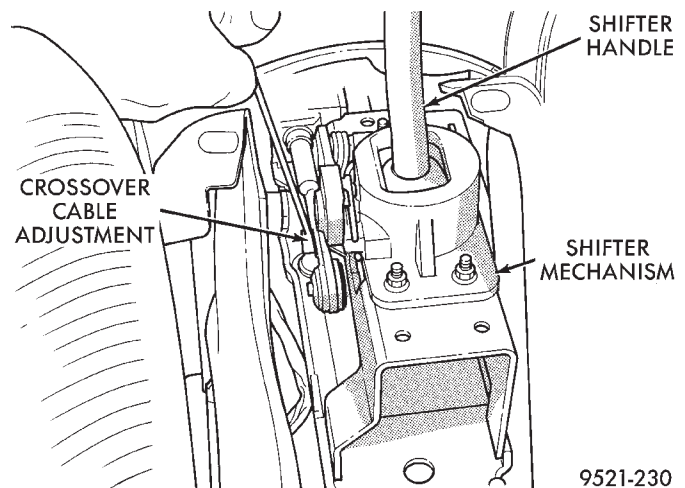
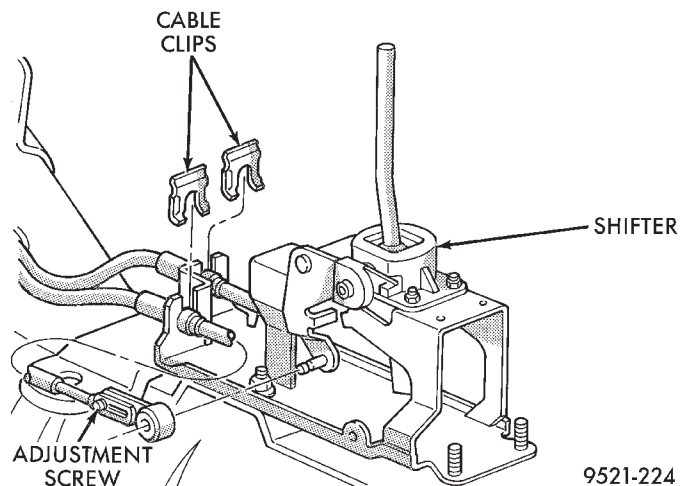

Fig. 148 Loosen Crossover Cable Adjustment Screw
Fig. 149 Crossover Cable Adjustment Screw
- (1) Remove shift console from vehicle.
- (2) Loosen adjusting screw on crossover cable at shifter (Fig. 148) (Fig. 149).